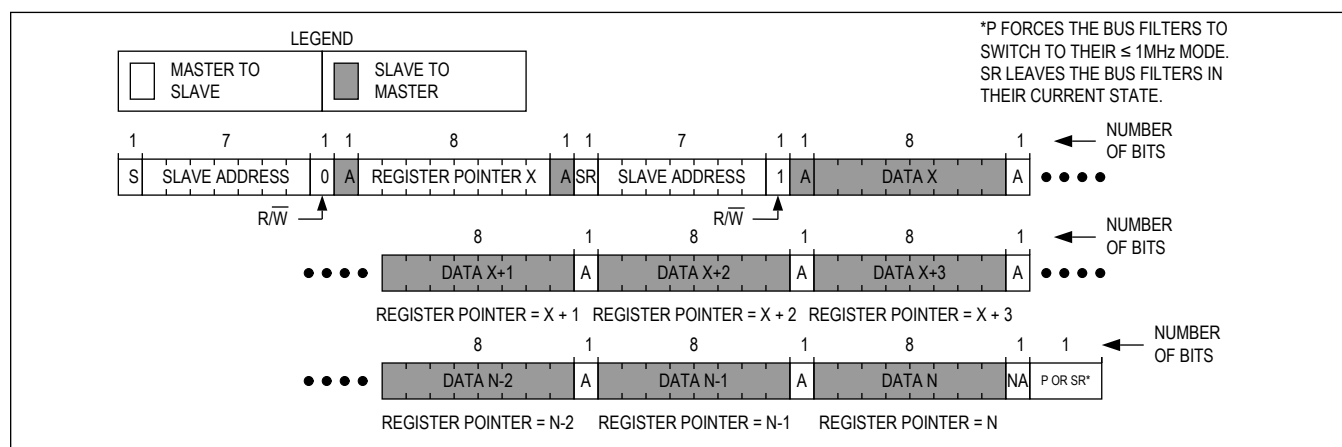

Figure 22. Reading Continuously from Sequential Registers X to N
Figure 22 shows the protocol for reading from sequential registers. This protocol is similar to the read byte protocol except the master issues an acknowledge to signal the slave that it wants more data: when the master has all the data it requires it issues a not acknowledge (nA) and a stop (P) to end the transmission.